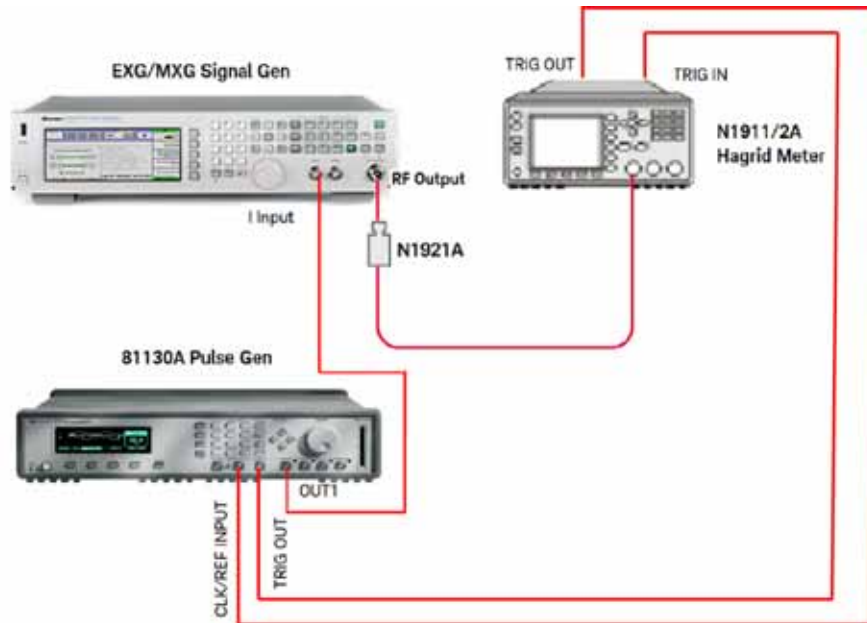

Figure 2-6 System-level rise and fall time performance test setup
- 4 Set up the equipment as shown in the Figure 2-6.